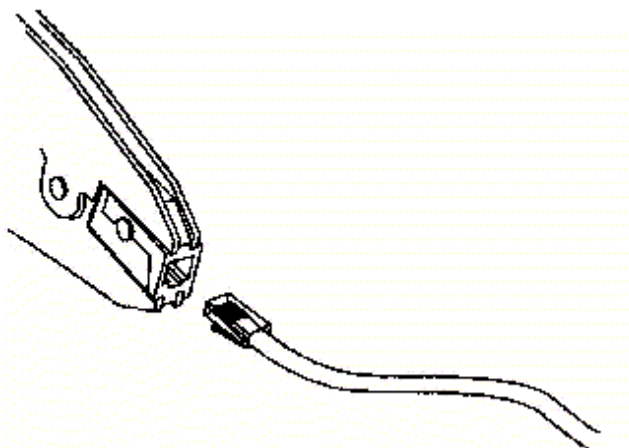

Figure 5.5 Crimp tool.
8. Insert the connector into the crimp tool as shown in Figure 5.5 and crimp the connector. Be sure that the connector is fully seated into the crimp dies.